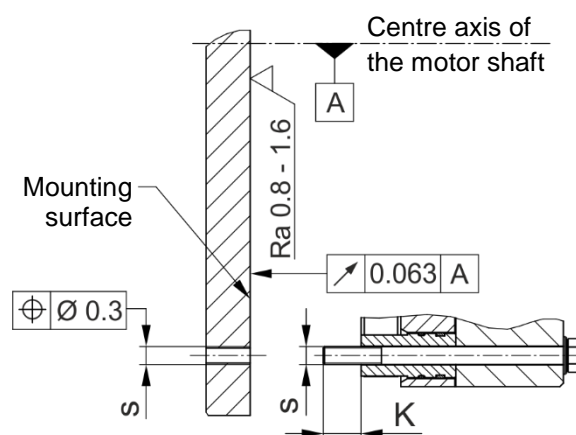

Fig. 5
- ❑ On hub designs the tolerances of the hub bore (10) and the shaft must be selected so that the hub toothing (10) is not widened. Widening of the toothing leads to the rotor (3) jamming on the hub (10) and therefore to brake malfunctions. Recommended hub – shaft tolerance H7/k6. If the hub (10) is heated for better joining, the O-ring (11) must be removed beforehand and re-mounted after hub installation. The max. permitted joining temperature of 200 °C must not be exceeded.
- ❑ Dimensioning of the key connection according to the requirements shaft diameter, transmittable torque and operating conditions must be carried out. For this, the corresponding user data must be known or the customer must carry out the dimensioning according to the valid calculation basis DIN 6892. For the calculation, a hub quality of $Re = 300 \text{ N/mm}^2$ should be used. The length of the key should lie over the entire hub (10).
- ❑ The mounting dimensions and the tapped holes s with depth $K + 2 \text{ mm}$ (K = screw projection) must be provided according to the Catalogue or the applicable assembly drawing (Fig. 5).